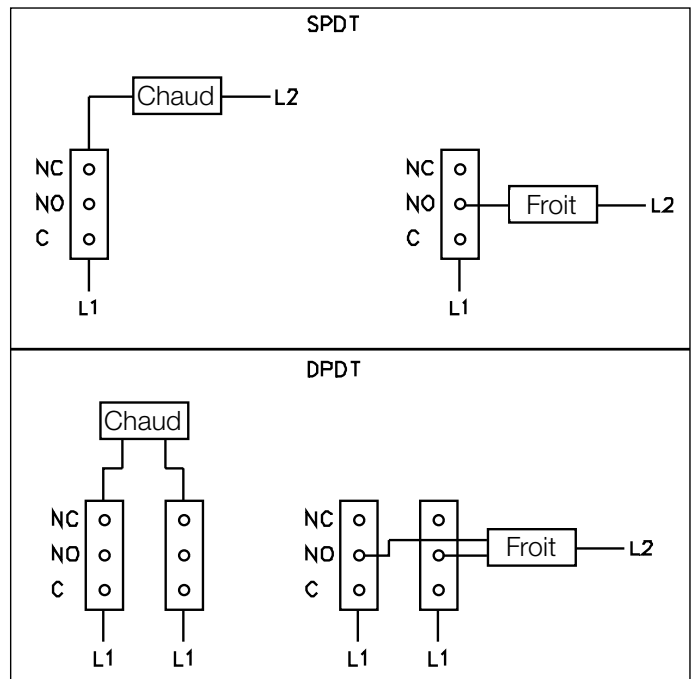

Figure 2
5. Connections are to be made to the switch terminals on the cover, Figure 2. The cover can then be installed to the base and securely fastened utilizing the four (4) mounting screws. Immediately prior to assembly, inspect the mating surfaces of the cover and enclosure. Do not connect if surface are uneven or gaps exist between the cover an enclosure. Install the four (4) screws to enclosure cover and tighten to 40-50 inch pounds.